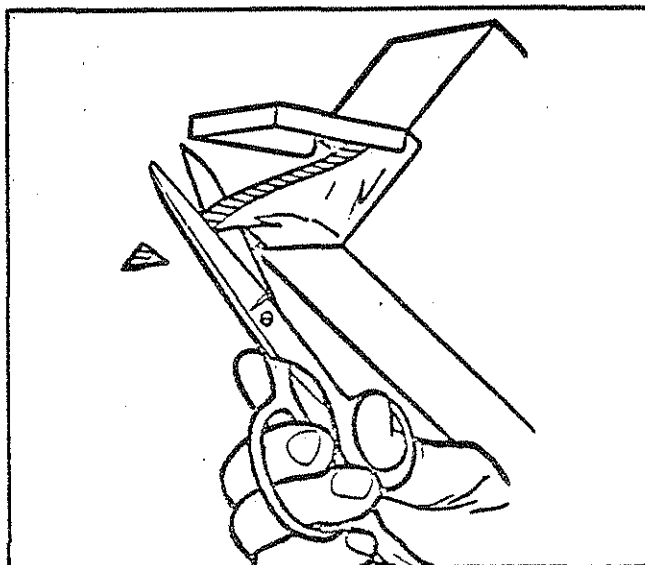

Figure 2 — Opening Electrolyte Container
4. Cut a small opening in the corner of the bag as shown in Figure 2. Do not make the opening larger than required since a larger opening will increase the tendency of the electrolyte to spatter as it is emptied from the container.